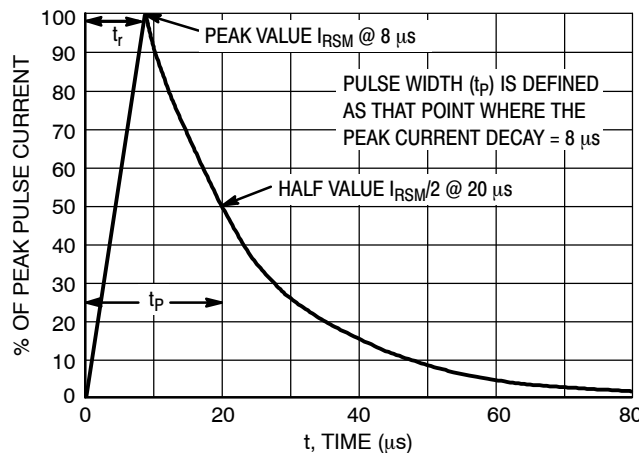

Figure 28. 8 X 20 μs Pulse Waveform
5. Surge current waveform per Figure 28 in ESD paragraph.